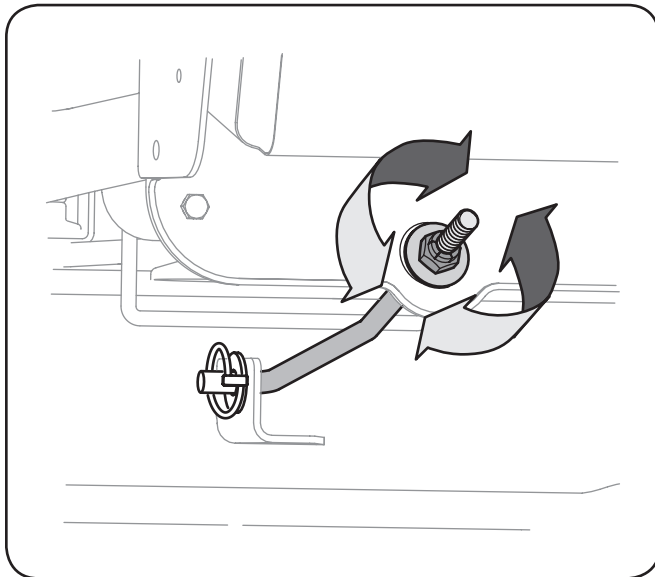

Figure 6-4
2. To *lower* the front of the deck, loosen (thread outward) the lock nut, away from the front hanger bracket. See Figure 6-4.